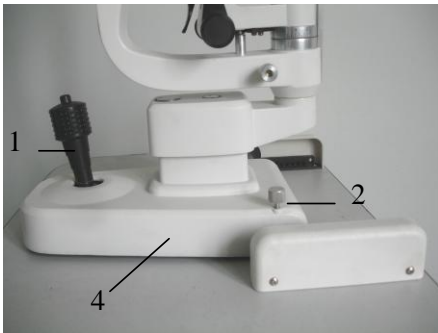

Fig.18
Keep the joystick (1) erect and move the base to make the microscope move on the horizontal surface to aim at the object roughly.(Fig.18)